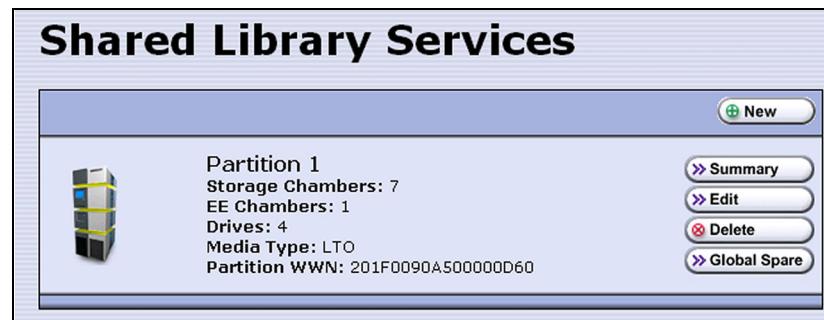

Figure 84 Click **New** on the Shared Library Services screen to begin creating the storage partition.
3. Select **Automatically create a partition** from the initial Shared Library Services screen (see Figure 84 on page 172) and click **New**.